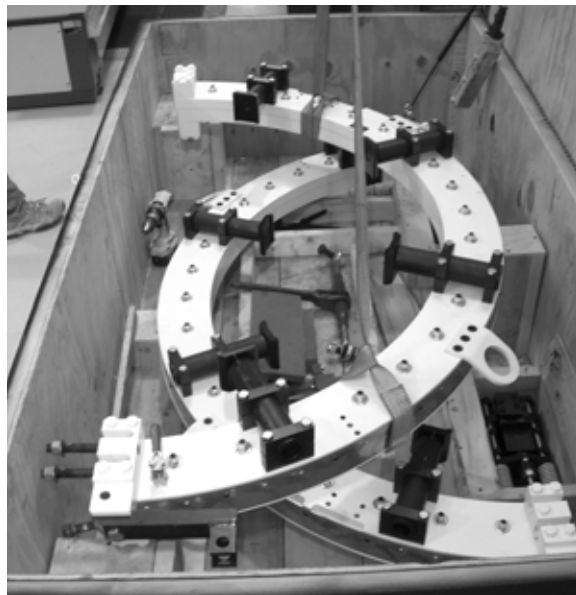

Figure 4-6. Put the second half of the ring into the crate and position it on the taller mounting blocks.
6. Attach the crane to the other half of the ring using lifting straps and lower it into the crate as shown in Figure 4-6.